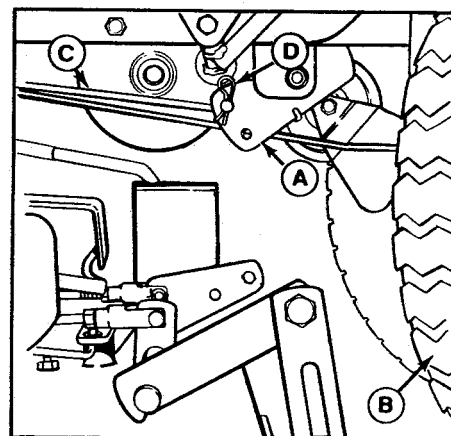

**Figure 3. L.H. PTO Pulley Belt Stop**
7. Position the mower hitch arms (C, figure 3) so they are underneath the rear holes in tractor hitch (A, figure 4). Lift up one side of mower with both hands
8. Slip the mower drive belt onto the Engine PTO pulley (D, figure 3). Loosen the belt stops if necessary. The left-hand belt stop is item E in figure 3. The right-hand belt stop is item A in figure 5A.